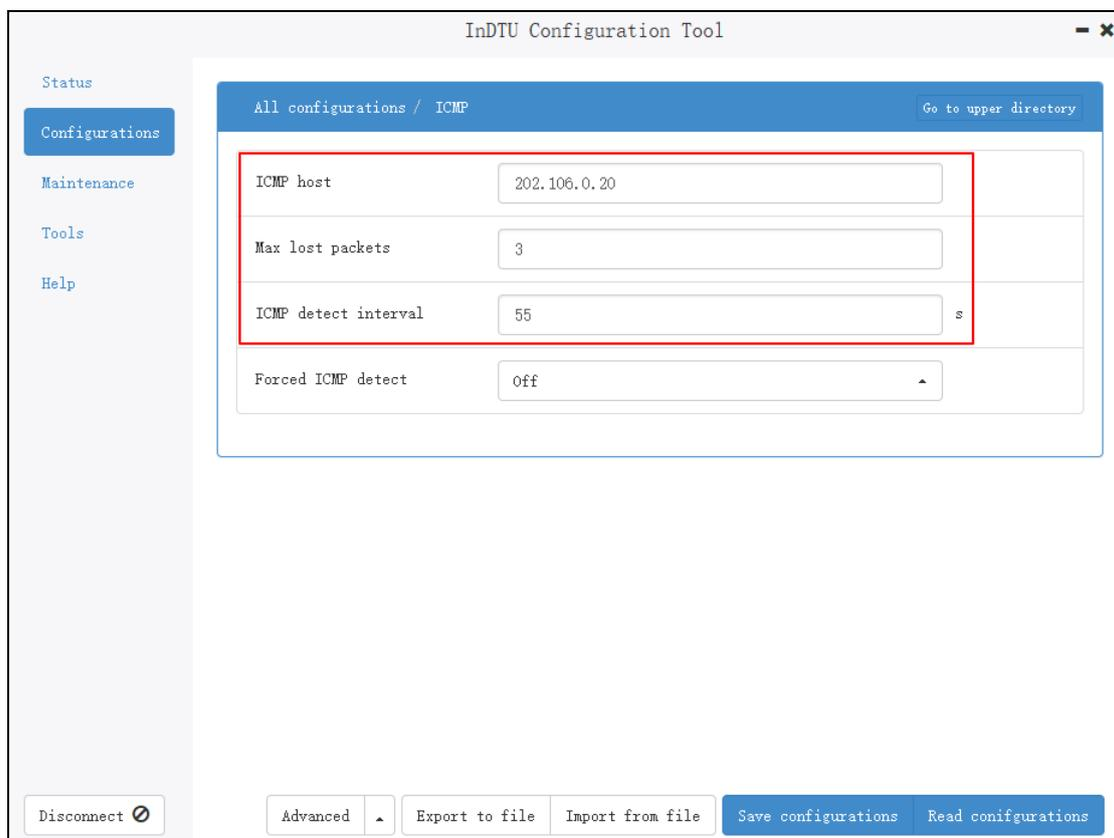

Figure 2-10 ICMP parameters
Step 3:(optional) Choose **All configurations > ICMP**, and set the ICMP options. Figure 2-10 shows a configuration example. The ICMP host address must be successfully pinged in 7/24 hours .